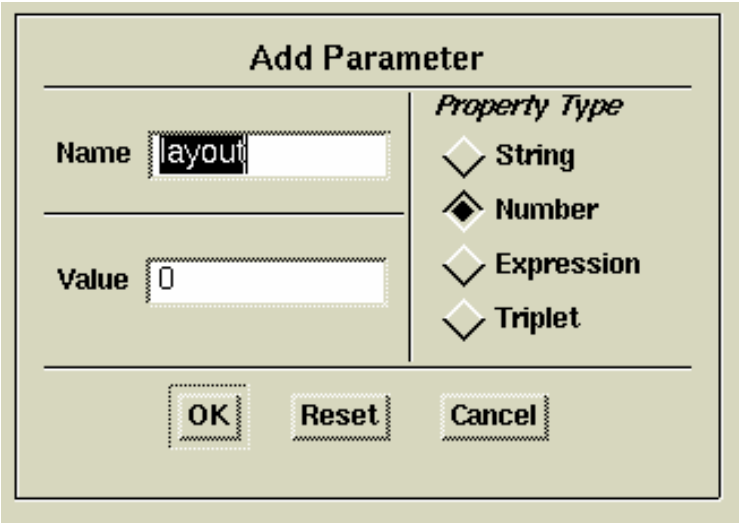

Figure 3-26. Add Parameter Dialog Box for Engineering Viewpoint
- 5. Complete the dialog box as shown in Figure 3-26, and click the **OK** button.